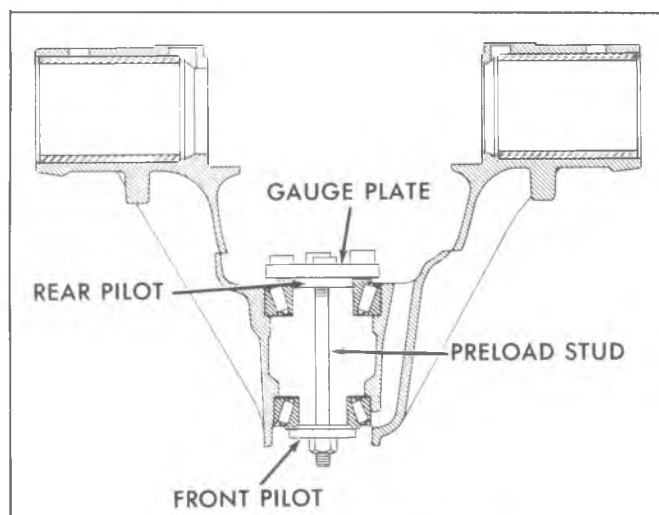

Fig. 21C--Gage Plate Installed
3. With cloverleaf gage plate J-21777-36 mounted on preload stud J-21777-43, insert stud through rear bearing and pilot J-21777-35, and through front bearing and pilot J-21777-42. Install the hex nut until snug and rotate the bearings to make sure they are properly seated. See figure 21C for illustration of proper positioning.